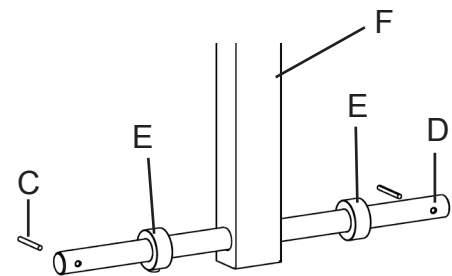

Figure 2
- Install the first roll pin (C) in the axle (D), tapping lightly with hammer to center the pin on the axle (see Figure 2).
- Slide one shaft collar (E) onto the axle (D). Next slide on the rear support brace (F) followed by the second shaft collar (E) (see Figure 2). Do not tighten the shaft collars against the axle at this time.